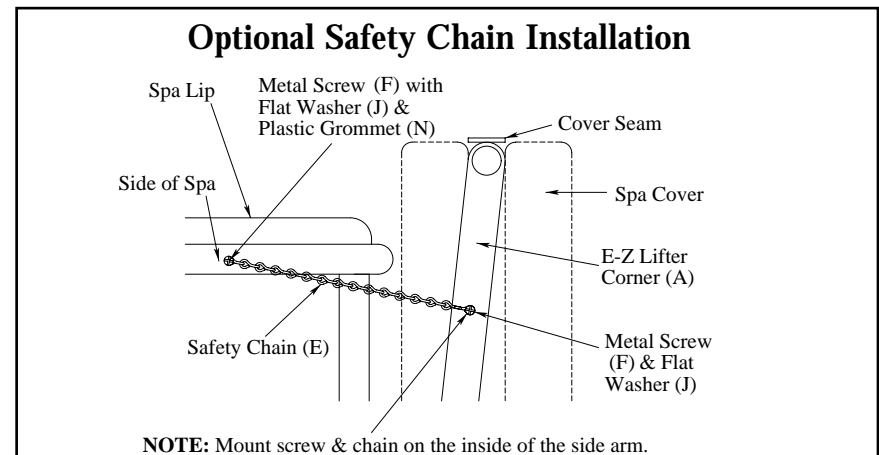

FIGURE 5A
- 8a) Mount the Safety Chain (E) to the spa cabinet using a Metal Screw (F). Put a Flat Washer (J) on the Metal Screw (F) followed by the Safety Chain (E), followed by the Plastic Grommet (N). Thread the Screw (F) into the spa cabinet where marked until the screw is tight. Then back the screw out 1/2 turn to allow the chain to turn freely (see Figures 5a and 6).